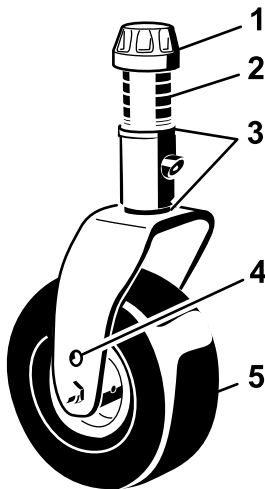
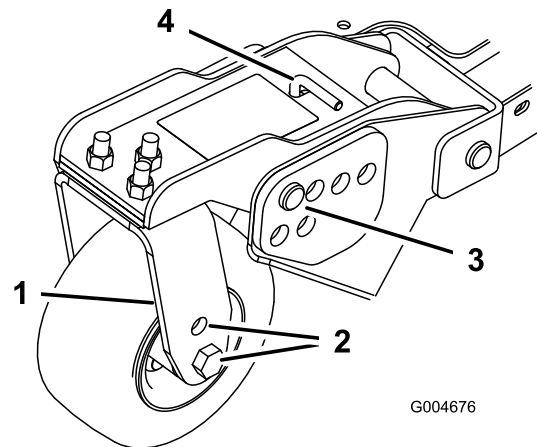
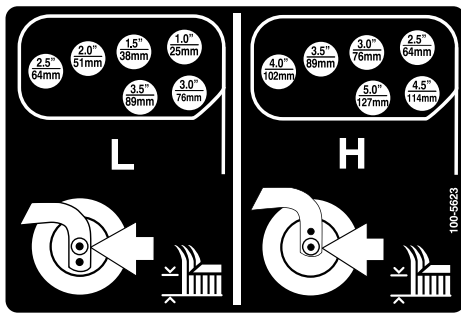

Figure 22
Figure 24
Figure 25
1. Position the castor wheel axles in the same holes in all of the castor forks (Figure 22 and Figure 24). Refer to the following chart to determine the correct hole for the setting.
2. Remove the tensioning cap from the spindle shaft (Figure 22) and slide the spindle out of castor arm. Put the two shims (3 mm [1/8 inch]) onto spindle shaft as they were originally installed. These shims are required to achieve a level across the entire width of the cutting units. Slide the appropriate number of 13 mm (1/2 inch) spacers onto the spindle shaft to get the desired height-of-cut; then slide the washer onto the shaft.
4. Remove the hairpin cotter and clevis pins from the castor pivot arms (Figure 24).
5. Rotate tension rod to raise or lower pivot arm until holes are aligned with selected height-of-cut bracket holes in the cutting unit frame (Figure 24 and Figure 25).